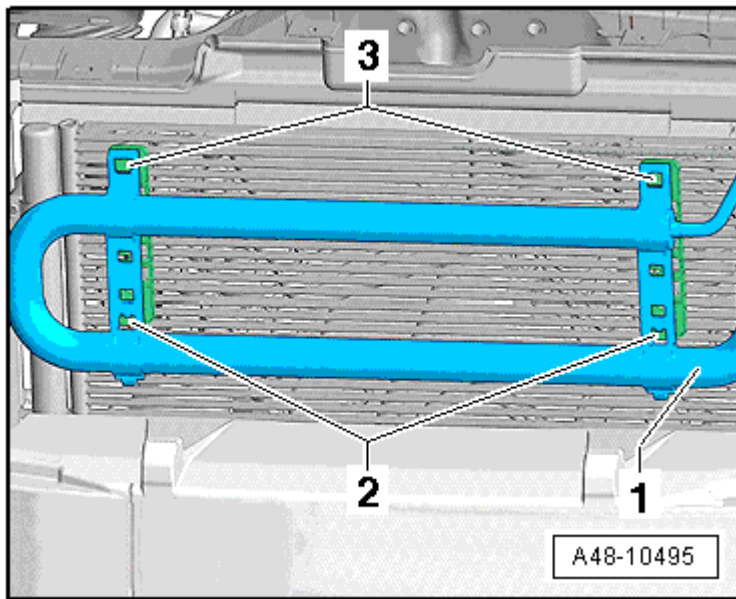

Fig. 23: Hydraulic Oil Cooler To Condenser
5. Hydraulic oil cooler to condenser, refer to **Fig. 23**